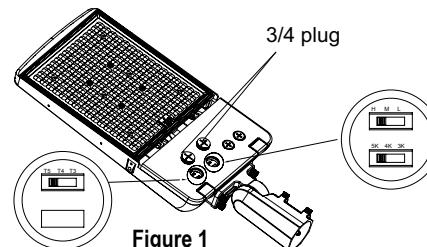

Figure 1
1. Remove the 3/4 NPT plugs on the left side of the fixture. Adjust the power and CCT to the desired settings using the switch in the right KO hole. Adjust the light distribution to the desired setting using the switch in the left KO hole. (see Fig. 1)